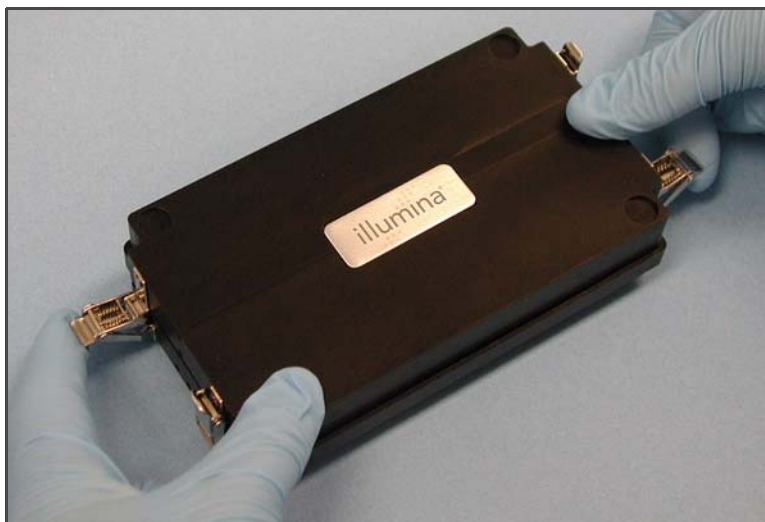

Figure 24 Seal the Hyb Chamber
4. Close and lock the BeadChip Hyb Chamber lid (Figure 24).